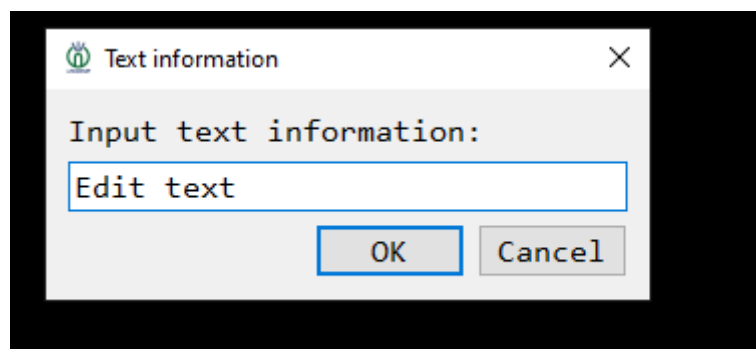

Fig. V-50 Text Tag Mark
- 1) Click the toolbar icon  or "Tool (P)" ->"Measurement" ->"Tag" in the menu bar to add text tag.
- 2) In the area where X-Ray image tag shall be added, press and hold the left mouse button, drag the mouse and release it to see the opened text tag edit box (Fig. V-50).